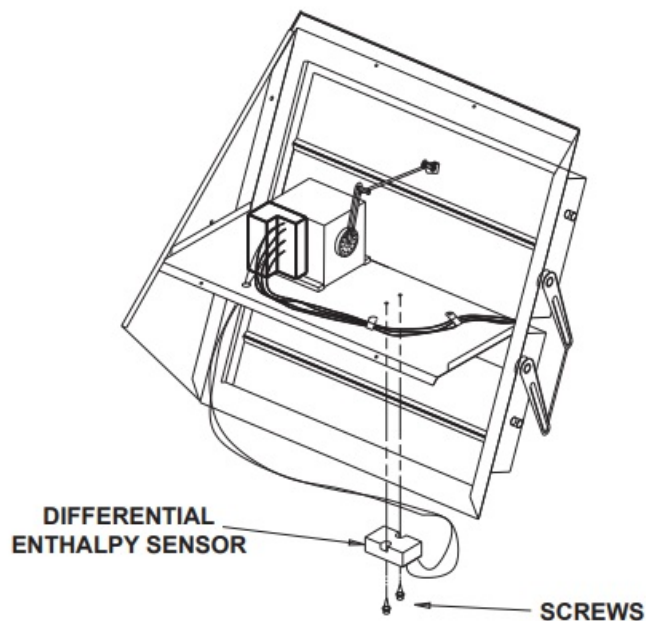

Figure 2.
2. Mount the second enthalpy sensor on the bottom side of the motor deck, see Figure 2.